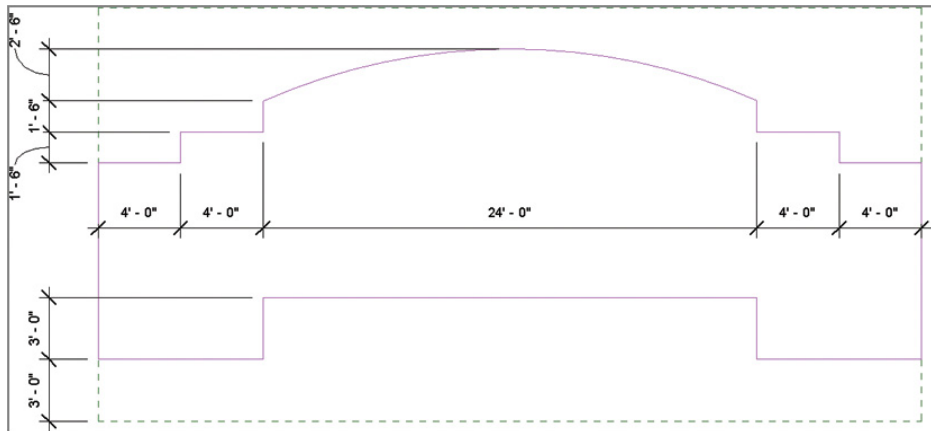

FIGURE 2.15 Edited wall profile
2. Select the copied wall, and click Edit Profile. Modify the exterior sketch as shown in Figure 2.15. Don't forget to trim and delete unnecessary sketch lines. Then finish the sketch.